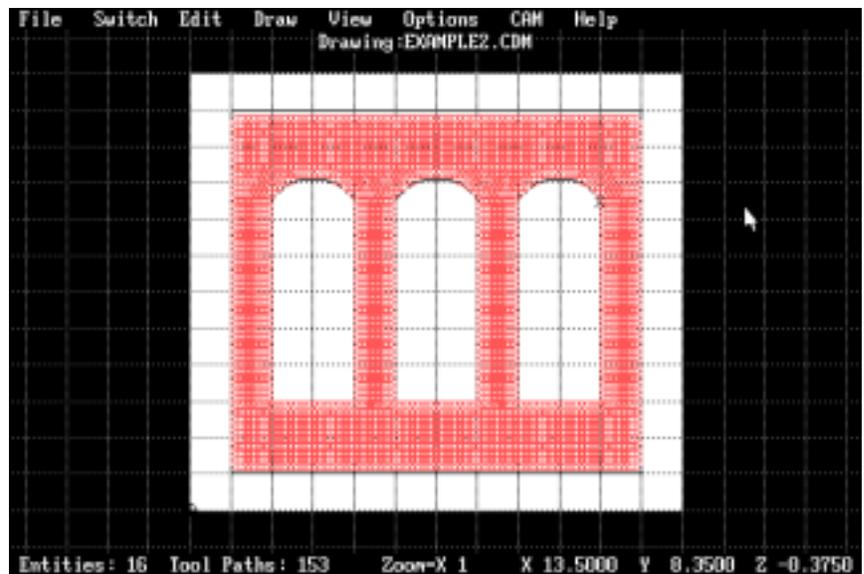

Figure 4.2.4 Completed Roughing Cut Tool Path
15. Select **CAM-Rough Cut Pocket** with the mouse or choose <ALT>-C R from the keyboard. MultiCAM Mill is now processing the part profile and generating a tool path. When complete, the screen should look like **Figure 4.2.4**.